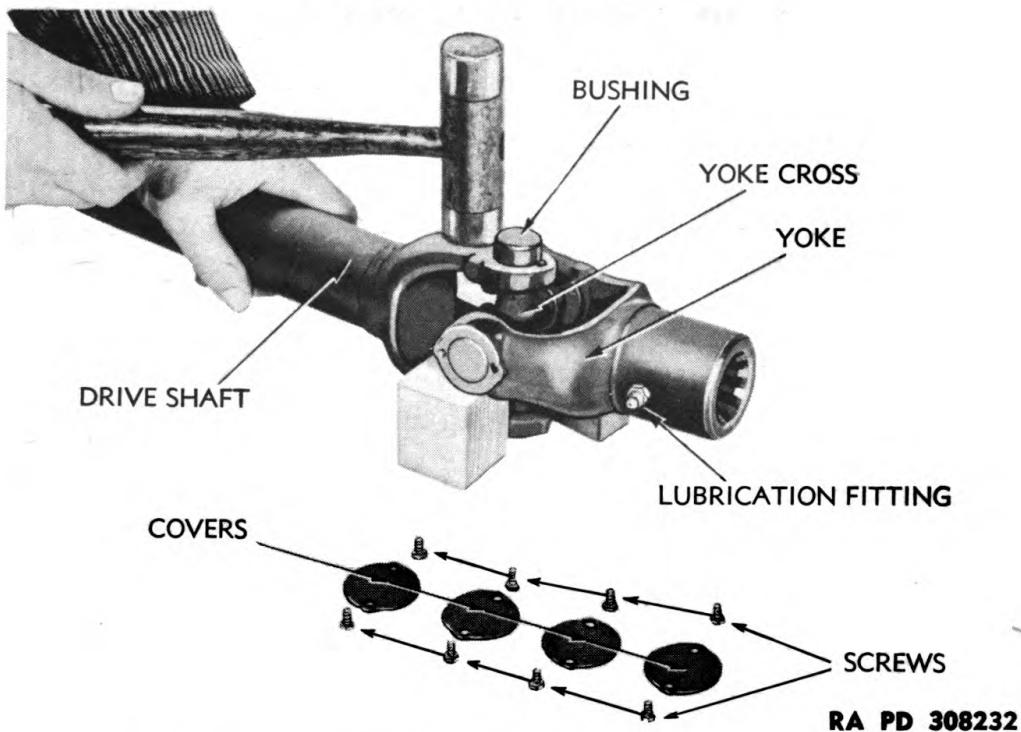

Figure 130 — Driving Bushings From Universal
b. Disassembly of Universal Joints. Remove the four covers from yokes by removing two screws from each. Place blocks under yoke as shown in figure 130 and drive down on other yoke. This will drive bushing out of one side of yoke (fig. 130). Turn universal over and drive opposite bushing out in same manner. Remove yoke